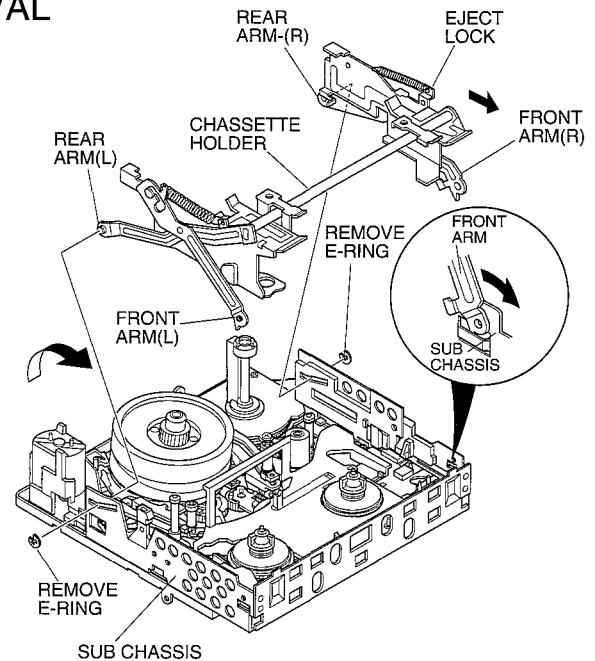

Fig.2-1
Note: If the cassette holder does not raise, to move the EJECT LOCK of the holder to raise it. (See Fig. 2-1)
- (1) Remove the E-rings holding the cassette holder on the left and right. (See Fig. 2-1)
- (2) Use the linked sections of the holder front arms (L&R) with the sub chassis as pivots, to lift the rear arms (L&R) in the direction of the arrow.
- (3) Release the front arms (L&R) from the sub chassis, and remove the cassette holder.